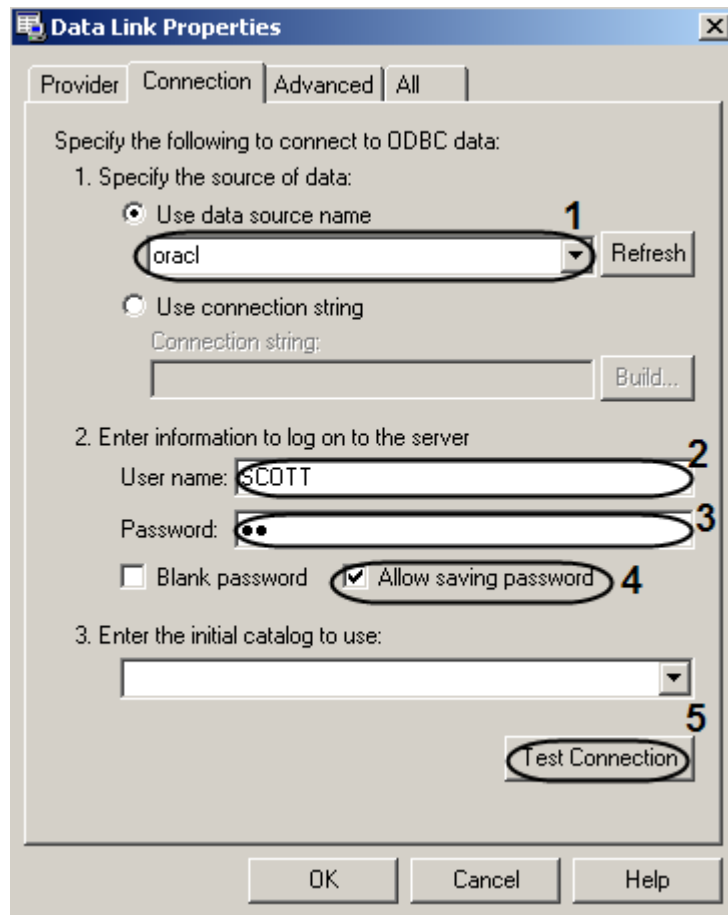

Fig. 7.5-4 Oracle database connection
- 5.3.2 Go to the tab Connection and click Next (Fig. 7.5-4).
- 5.3.3 Enter the server name and of Oracle database to which the local client Oracle is connected in the field «Use data source name» (Fig. 7.5-4, 1)
- 5.3.4. In the fields «User name» (Fig. 7.5-4, 2) and «Password» (Fig. 7.5-4, 3) enter the user name and password to connect to the Oracle database server.
- 5.3.5. Set the checkbox «Allow saving password» (Fig. 7.5-4, 4).